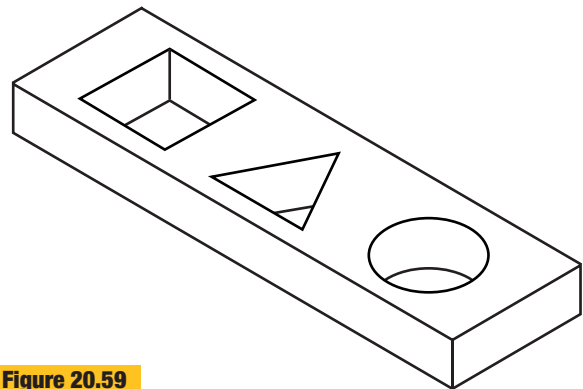

Figure 20.59
1. Determine one solid object that will pass completely through the circular, triangular, and square holes (Figure 20.59). The object must pass through each hole one at a time and be tight enough that little or no light passes between it and the sides of the hole. Make an isometric sketch of your solution.